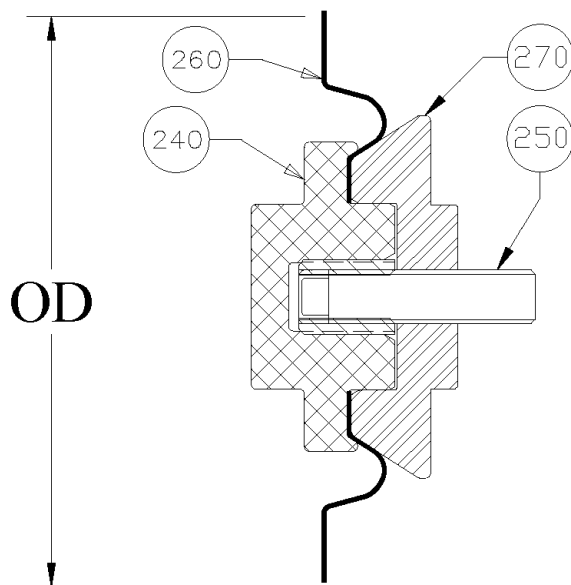

Figure 6. Diaphragm Assembly
4.4.2.2 Disassembly (Only Those Units With a “Hex Head “ Diaphragm Cap Design, Figure 6)
1. Mount the hex cap (240) in a vise (do not over-tighten), and with surfaces cleaned place a new diaphragm (260) onto the cap as shown Figure 6 through Figure 13 (convolution pointing toward the support nut).
2. The set screw (250) hand tight in the cap (240) with the hex socket end visible.
3. Screw the support nut (270) onto the set screw until hand tight
4.4.2.4 Reinstallation of Assembly (Refer to Figures 6 Through 13)
Disassembly (Refer to Figure 6 through 13).
Reassembly (Refer to Figure 6 through 13).
1. Install a new oil seal (70) onto the connecting rod.
2. Slide small oil seal clamp (210) onto the end of the connecting rod and secure in place with the retaining ring (220). A drive socket large enough to fit over the end of the connecting rod should be used to push the retaining ring until it snaps into place in the retaining ring groove in the connecting rod.
3. Secure the large oil seal clamp (80) over the oil seal with the four slotted screws (90).
4. Place the diaphragm support ring (230) into position making sure beveled side (for diaphragm support) is facing up (refer to Figure 6 through 13). For SG7 liquid ends, the support ring (230) has stepped diameters. Make sure that the larger diameter is installed into the metal adapter ring (225 Figure 12 and 13).
6. Turn the motor fan by hand until the diaphragm rests properly on the diaphragm support ring (230). Reinstall the motor shroud if previously removed. With the stroke adjusting knob at 100% and the diaphragm fully forward as in steps 2 and 6 of disassembly instructions, screw the diaphragm assembly into the connecting rod until it reaches its natural mechanical stop.